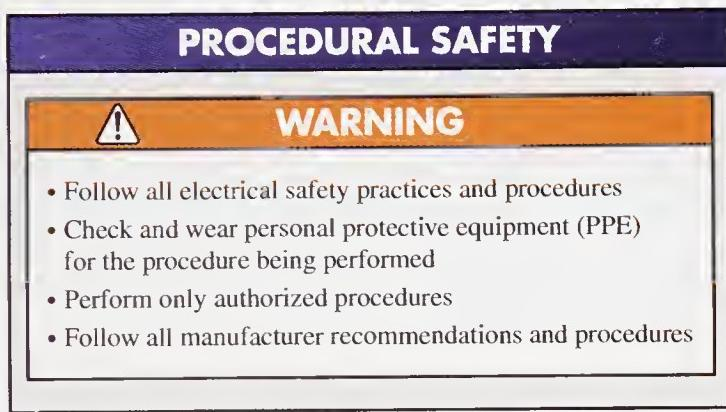

Figure 1-20. The four warning procedures used in procedural lists are typically used to encompass many aspects of safety for an electrician.
- Always wear personal protective equipment (safety glasses, insulating gloves, cover gloves, arc flash protection) appropriate for the test area. See **Figure 1-20**.